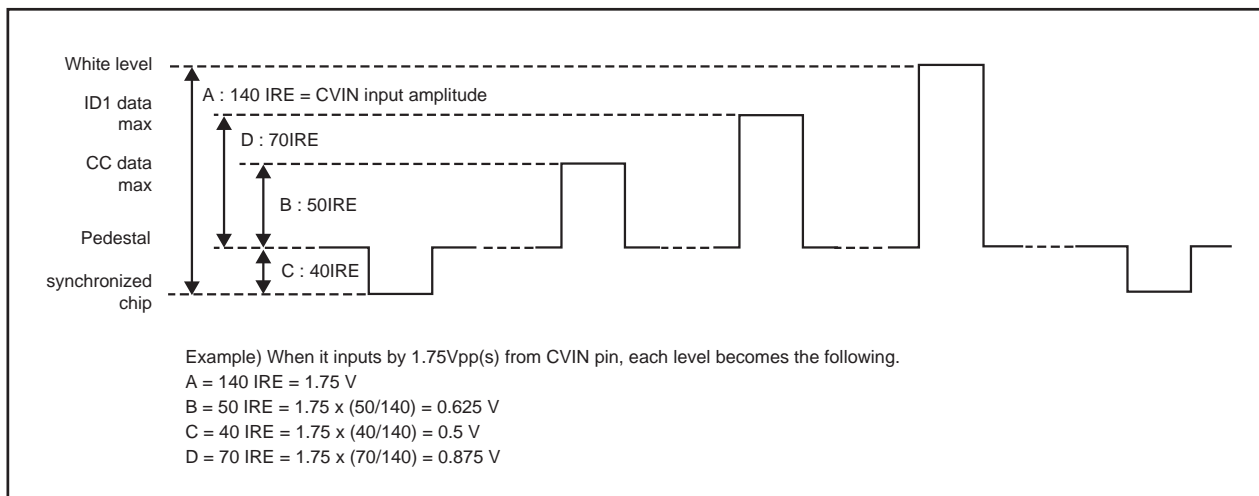

Figure 14.2 Each signal level to input amplitude of CVIN pin
(2) Each signal level to input amplitude of CVIN pin is shown in Figure 14.2.